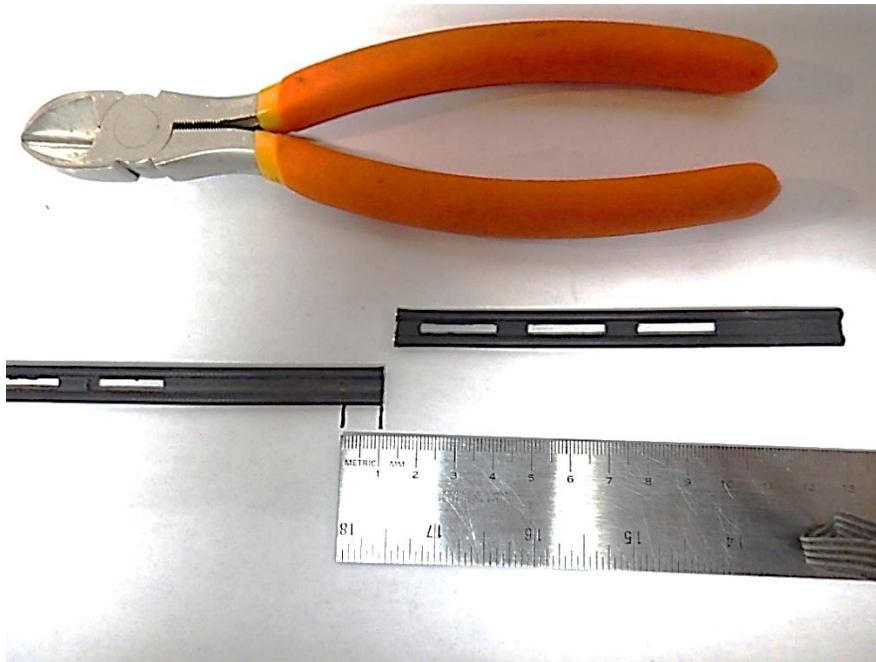

Figure 7
7. Cut the twin lead about 1 cm past this mark. (fig. 7)